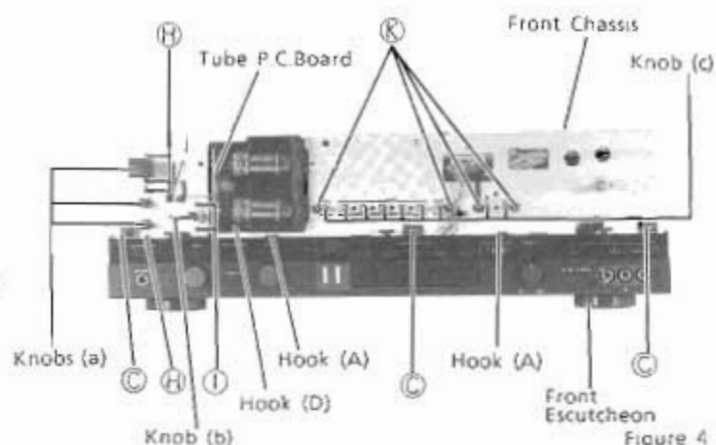

Figure 4
- Remove three knobs (a) and remove four screws marked "ⓐ" as shown in Figure 4.
- Remove one knob (b) and remove two screws marked "ⓑ" as shown in Figure 4.
- Remove one hook (D) as shown in Figure 4.
- Remove four screws marked "ⓔ" and remove nine knobs (C) as shown in Figure 4.